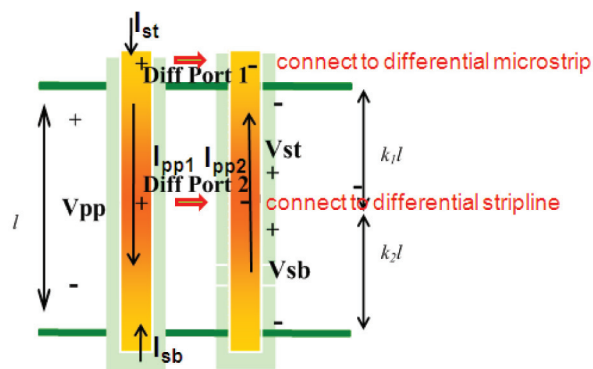
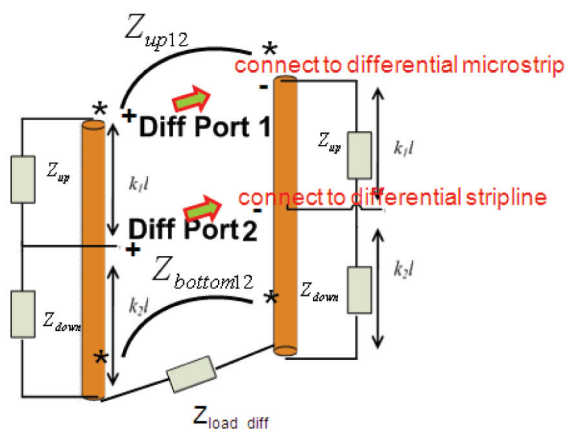

Figure 8: Two differential signal vias connects to two coupled striplines.
Figure 9: Equivalent differential transmission line model including the via stub effect for the structure shown in Figure 8. The reference plane is omitted.
The geometry of the differential case under study with a differential signal flows through two symmetric signal vias to two coupled striplines is shown in Figure 8. For differential signals, (3) and (4) become:
Similar to the single-ended case, the equivalent circuit model for the geometry shown in Figure 8 is developed as shown in Figure 9. Only the differential mode is considered in deriving the circuit parameters. The analytic expressions to calculate the per-unit-length impedance matrix  $\mathbf{Z}$  and the admittance matrix  $\mathbf{Y}$  can be found in [6], and
the single-ended case, in Figure 9, the parallel impedances  $Z_{up}$  and  $Z_{down}$  are converted from the extra current sources as:
The per-unit-length self impedance of the via remains the same as the diagonal terms in the matrix  $\mathbf{Z}$ .  $Z_{load\_diff}$  is the differential-mode input impedance looking from the cavities below the bottom plane. We assume differential port 2 is matched with differential striplines. The equivalent transmission line model shown in Figure 9 satisfies equation (2), (8), (9) and (10).